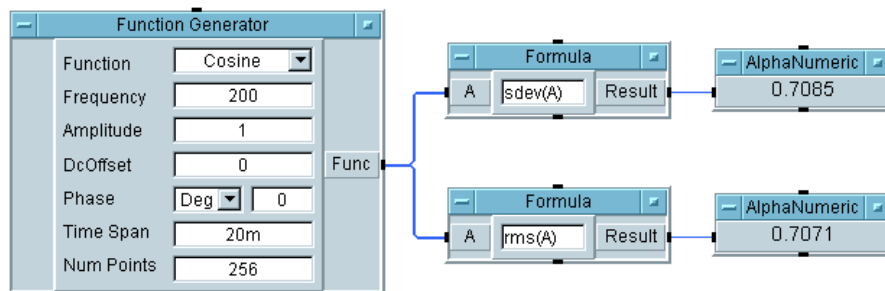

Figure 4-7. Formula Examples Using VEE Functions
5. Run the program. The program displays the same answers when these functions are put into the Formula object as it did when they were used as independent objects, as shown in Figure 4-7.